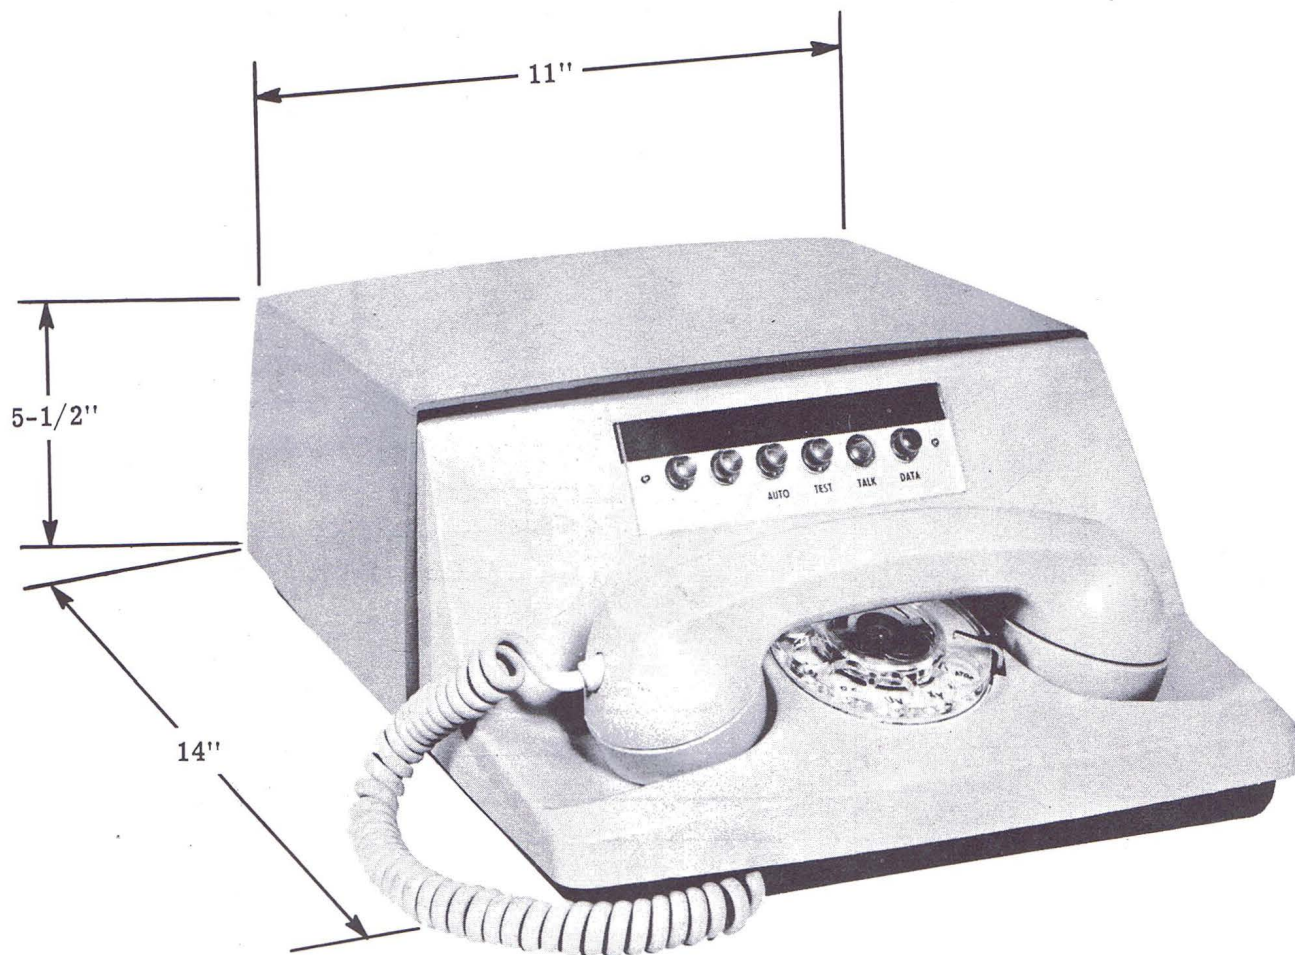

Figure 1. 202AW Data Test.
2.01 The 202AW data set (see Figure 1) is a medium-speed nonsynchronous transmit-